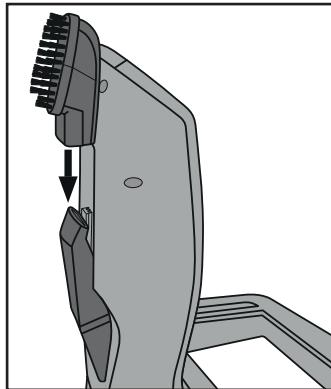

Fig. 5
- Then fit the brush nozzle 16 onto the brush nozzle holder 21 so that it covers the end of the crevice tool 17 (Fig. 5 and 6).